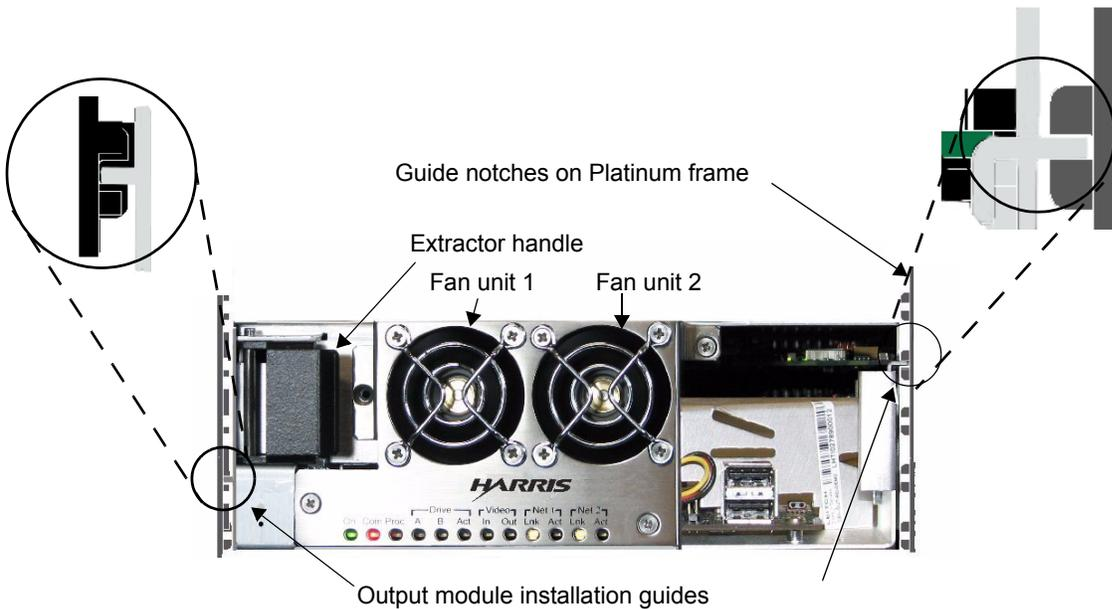

Figure 3-2. Installing the Output Module
- Align the installation guides on the left and right sides of the back module with the guide notches of the appropriate slots in the Platinum frame (see Figure 3-2).